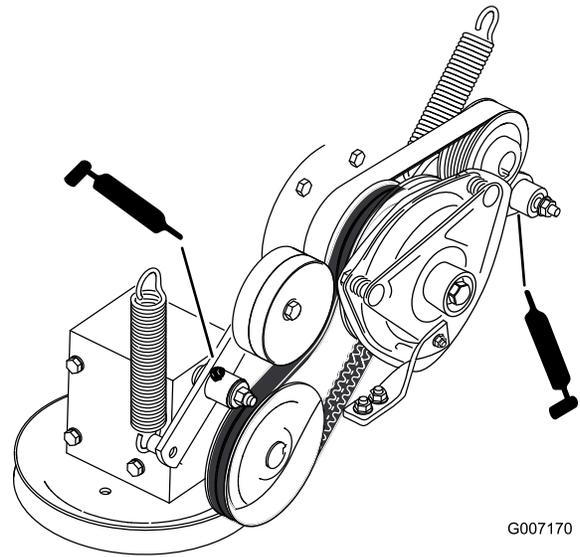

Figure 36
7. Grease the PTO drive belt idler arm (Figure 36).
8. Grease the pump belt idler arm (Figure 36).